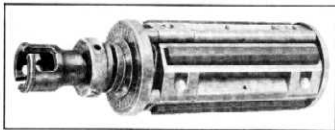

Fig. 44—Cylinder Hone
1. When the cylinders are to be honed only for high limit standard size pistons or for final finishing after they have been rebored to within .002" of the desired size, they should be finish honed and polished with a hone similar to the one shown in Figure 44. This is an expanding type hone with the blades or stones expanding when the nut on top of the hone is turned. Rough stones may be used at first and fine stones for the polishing operation.